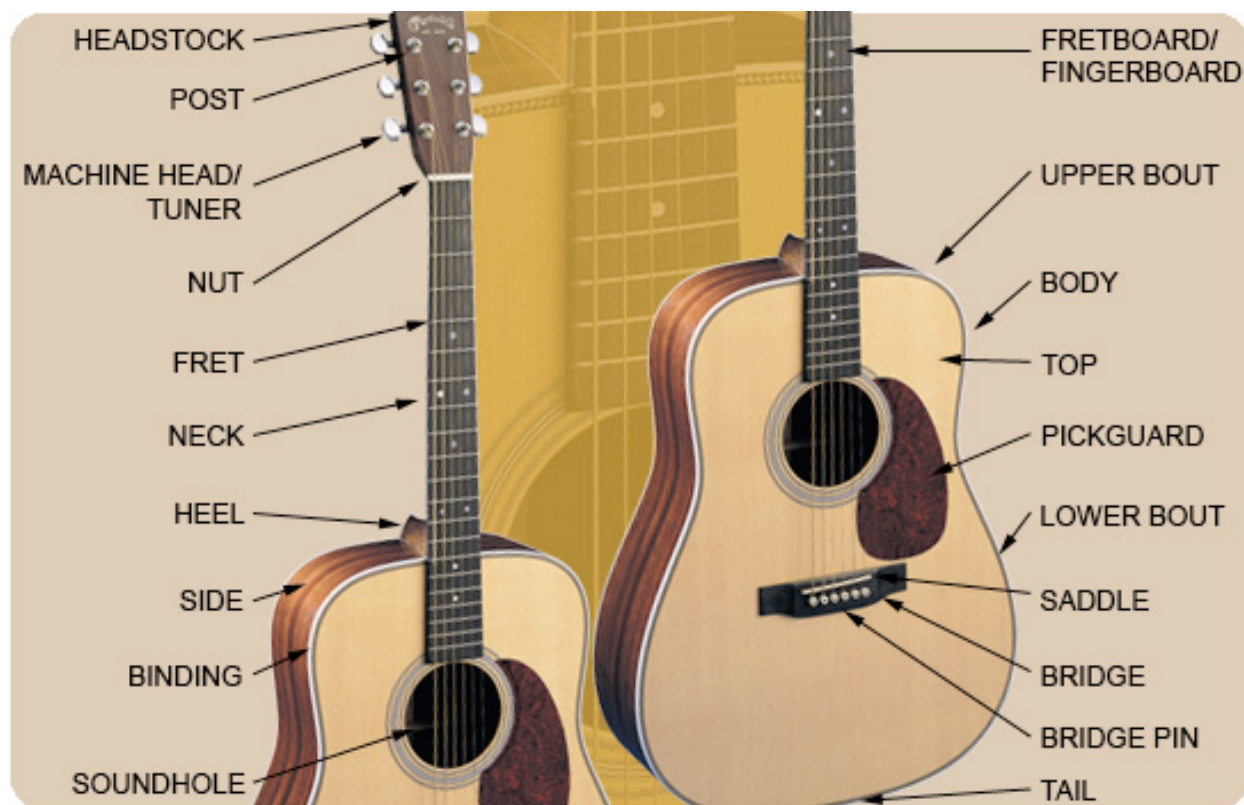

Figure 2. Parts of an acoustic guitar.
The purpose of this lab is to use software to analyze the waveforms and frequency spectra produced from a sliding whistle and your own voice. You will adjust the stopper of a sliding whistle and establish a relationship between the length of the resonating air pipe and the frequency or note produced. In addition, you will look at the spectrum of the human voice and compare its overtones to that of the sliding whistle. The length, L , that we want to measure is the length of the air pipe that is in vibration. The length of this column of air is the distance between the edge of the hole in the mouthpiece and the flat face of the stopper that is inside the pipe. See Figure 2.
Figure 2. When the stopper is pushed all the way in the length of the air column is about 3.8cm. You can measure this by pushing a wire into the hole of the whistle until it touches the plunger. Mark or hold the part of the wire just sticking out. Pull out the wire and measure the length between the end and your mark.
1. Inspecting the whistle: Note that when you blow the air is forced to hit a narrow wedge. The air stream becomes unstable and oscillates as it crosses the wedge setting the air column inside the whistle in motion. The end part can be adjusted so that the air column inside the whistle is either short or long. We want to measure the length of the air column inside the whistle. You can do this using the ruler, measuring the length of the instrument and comparing this to the length when the stopper is all the way in. As shown in Figure 1 the distance between the end of the stopper and the end of the mouth hole is about 3.8 cm. This should be enough information to allow you to calculate the distance between the edge of the mouth hole and stopper inside the tube (see Figure 1 and Figure 2).
3. For each note you blow and record measure the length of the instrument so you can calculate the length of the air column inside the instrument (see Figure 2 caption).
Figure 1: Our monochord will use one of these economy guitar tuners so that we can adjust the tension on the string. We will mount the tuners perpendicular to their normal orientation so that we do not have to have the headstock (see Figure 2) at a different angle than the guitar neck.
Mark the location where you would like to put the bridge and measure the distance (L) that the string will have between the nut and the bridge (see Figure 2).
The nut is the piece of wood or plastic that raises the strings above the neck on the side of the string opposite the tuner (see Figure 2). The bridge is the piece of wood or plastic that raises the strings above the neck on the side of the string opposite the tuner.